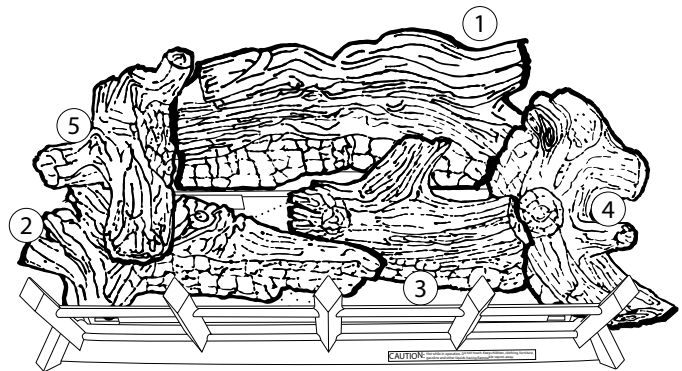

Figure 49
5. Place the top left log (#5) on the left side of the burner allowing the log to rest on top of the front left log (#2). (See Figure 49.)